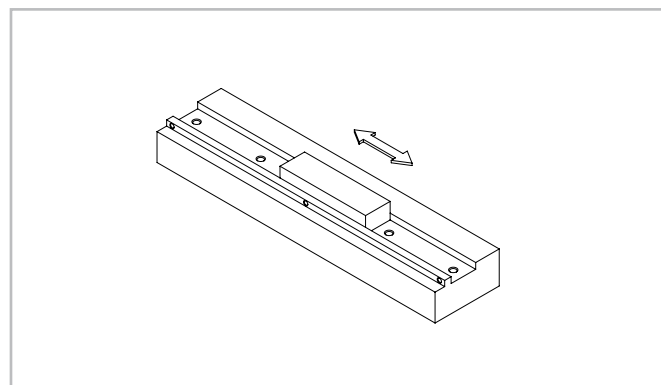

Fig. 39
(1) Whet the assembly surface with a whetstone and also remove burrs, unevenness and dirt (see fig. 39).